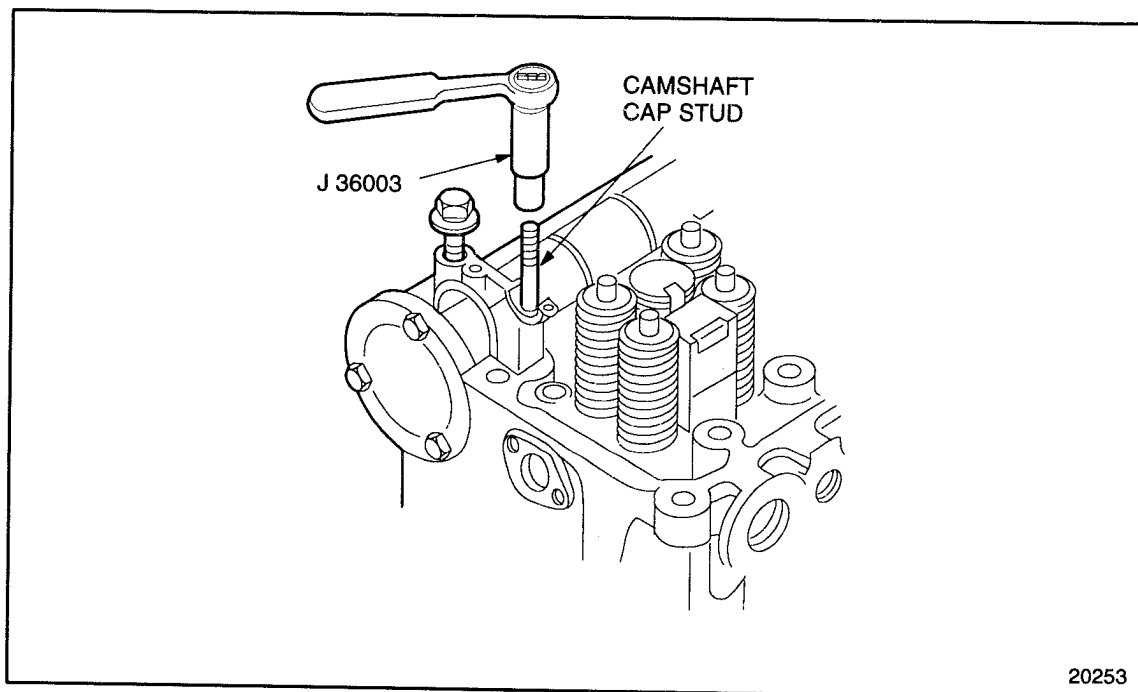

FIGURE 1-281 Camshaft Cap Stud Removal
14. Remove the remaining seven camshaft cap bolts. Remove the Number 1 and 7 studs using socket tool J 36003. See Figure 1-281.